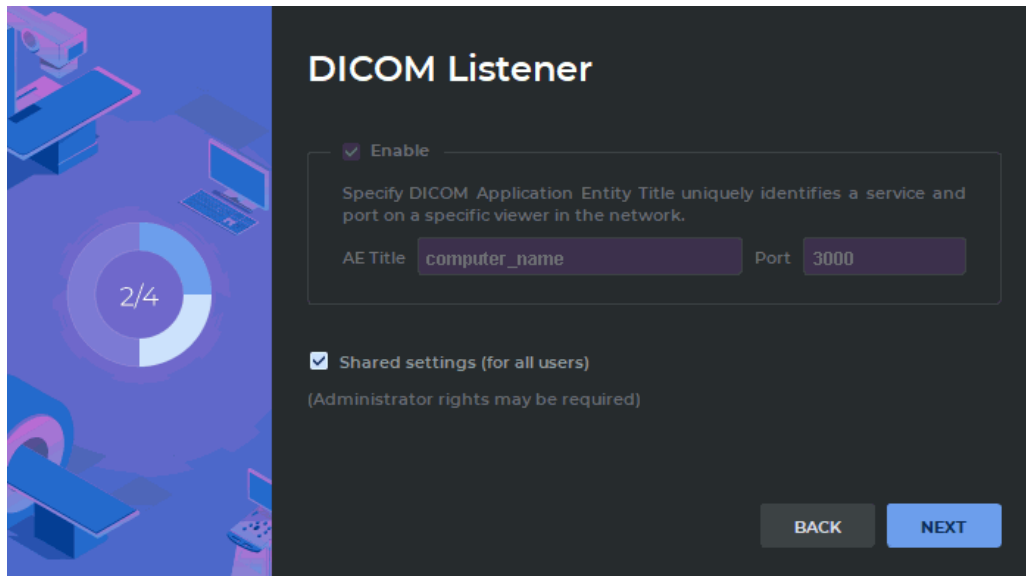

Figure 19: DICOM Service
2. On the page **DICOM Listener** (Fig. 19) set the parameters of the DICOM listener service.
This functionality is described in Section 12.1.1 and can be configured later. If this functionality has already been configured in this computer, then the window shown in Fig. 19 will contain the values specified earlier. Parameters specified earlier for a specific user will not be changed if you install the program for another user or for all users.